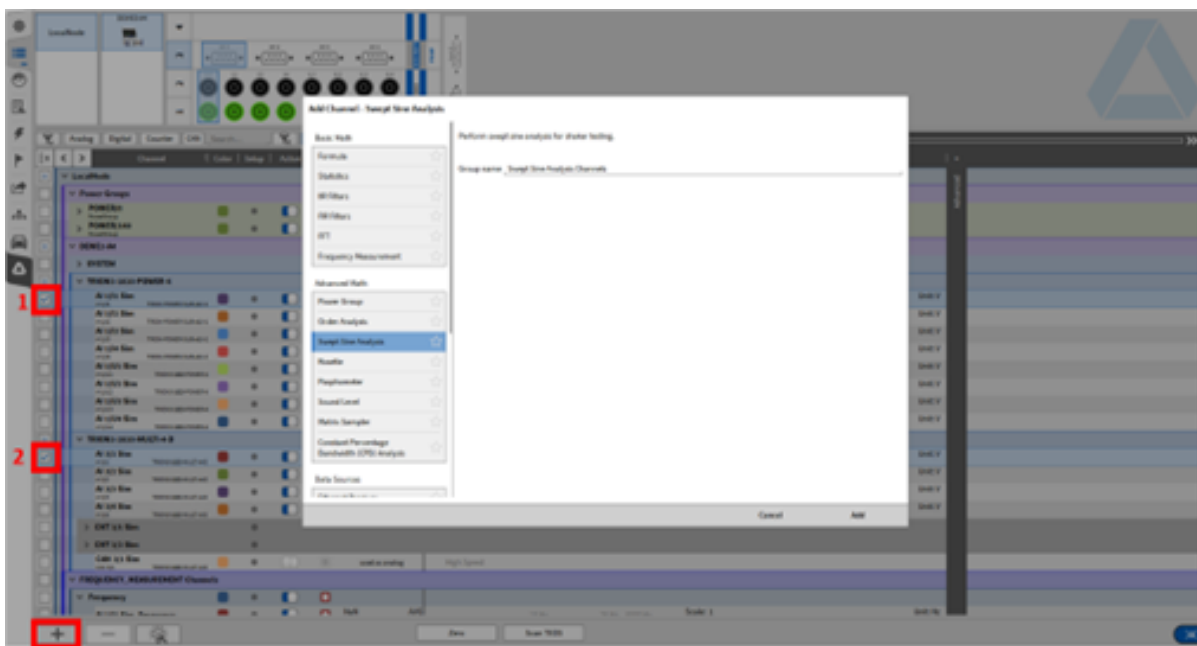

Fig. 7.129: Swept Sine Analysis
1. At first, mark the checkbox of the channel which provides the reference signal for the Swept Sine Analysis (see ① in Fig. 7.129)
2. Next, mark the channel that provides the signal measured on the signal sink (see ② in Fig. 7.129). Several sink signals could be applied to one Swept Sine Analysis group.
3. Click on the *PLUS* (see ③ in Fig. 7.129) sign to open the math setup and select *Swept Sine Analysis*. Edit the channel group name if desired and click on the *OK* button afterwards.